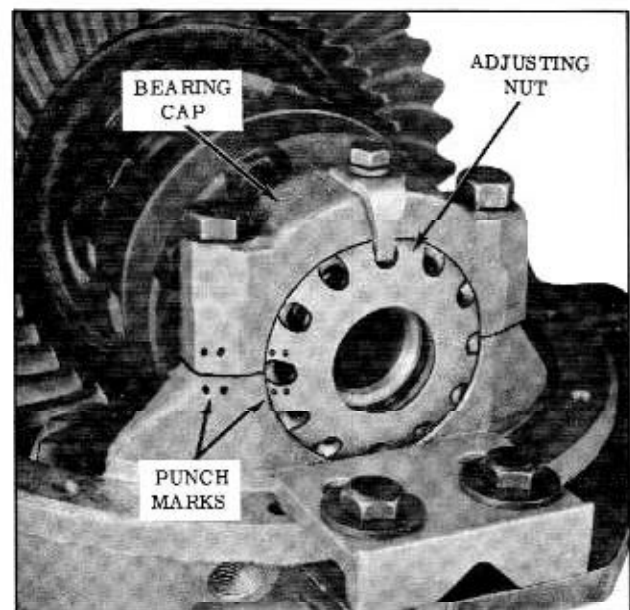

Fig. 6-15 Adjusting Nut Markings
3. Mark the right side bearing adjusting nut, bearing cap, and carrier with two punch marks as shown in Fig. 6-15, also mark the left side in the same manner using one punch mark. These marks will serve for location and adjusting purposes when rebuilding differential with the original gear set.